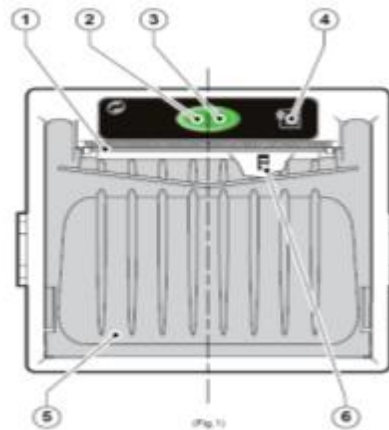

Figure 10 – Printer model PLUS II view
9. Place the paper roll making sure it unrolls in the proper direction as shown (see Fig.10, 11).